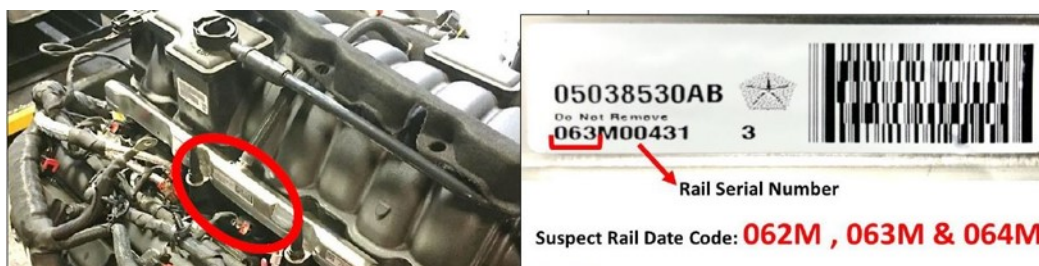

Fig. 2
3. Inspect the Julian date on both fuel rails (Fig. 2) .
4. Does the Julian date start with one of the following: **62M, 63M or 64M** (Fig. 2) ?